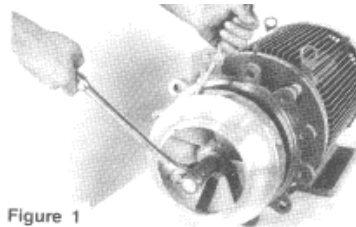

Figure 1
7. Insert a screwdriver in one of the impeller waterway passages and back off the impeller retaining nut with a socket wrench, as shown in Fig. 1